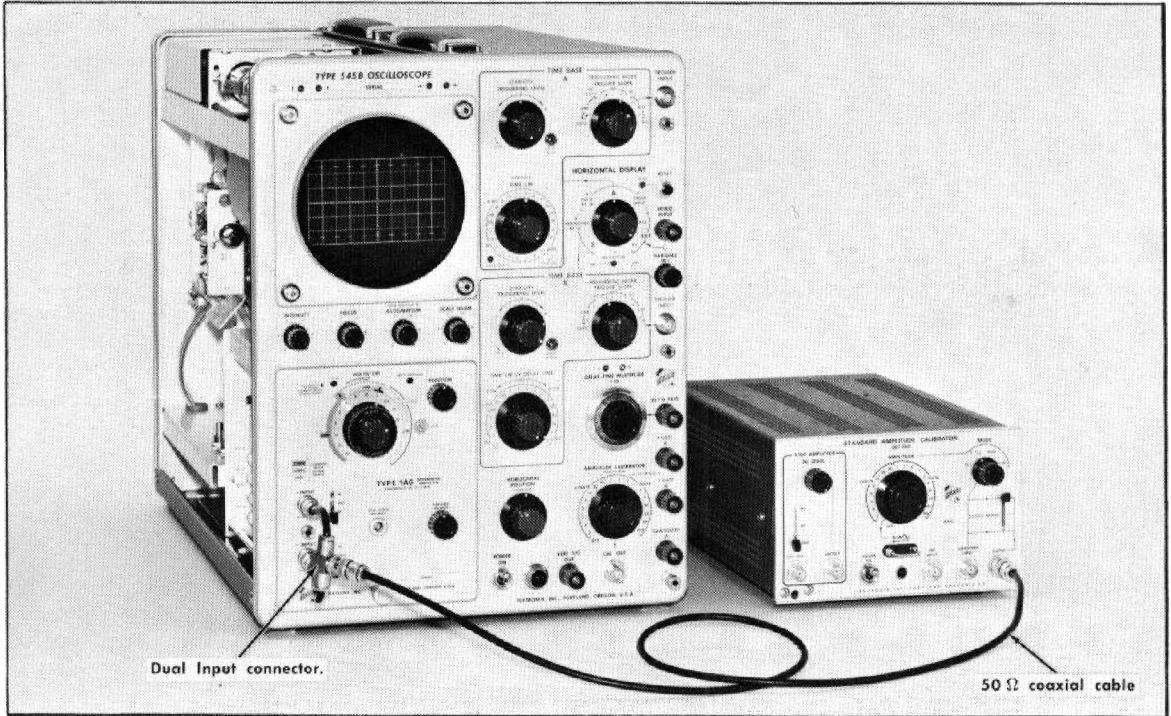

Fig. 6-7. Equipment setup for step 7.
- a. Equipment setup is given in Fig. 6-7.